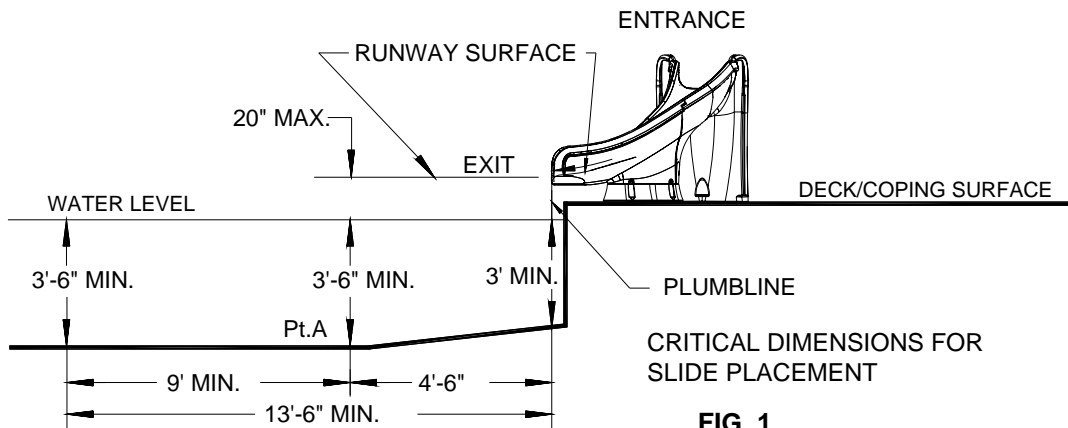

FIG. 1
- A. The slide exit runway surface shall not exceed twenty inches (20") above the water surface as shown in **FIG.1**.
- C. The minimum depth of water below the exit lip of the slide shall be three feet (3') and increases to three feet six inches (3'-6") at Pt. A, which is a distance of four feet six inches (4'-6") from the exit lip of the slide as shown in **FIG.1**.
- D. A minimum depth of three feet six inches (3'-6") shall be maintained at a distance of nine feet (9') along the extended centerline of the slide from Pt. A. as shown in **FIG.1**.